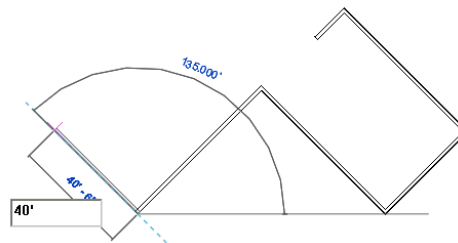

Figure 3-48 Sketching the sixth inclined wall segment
9. Next, create the connected wall segment of 40'(12192 mm) length, as shown in Figure 3-48.